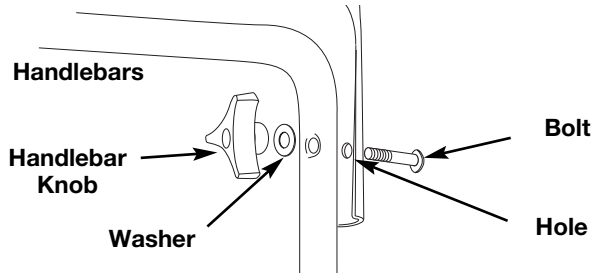

Fig. 1
1. Loosen the two knobs on the inside of the handlebars (Fig. 1).